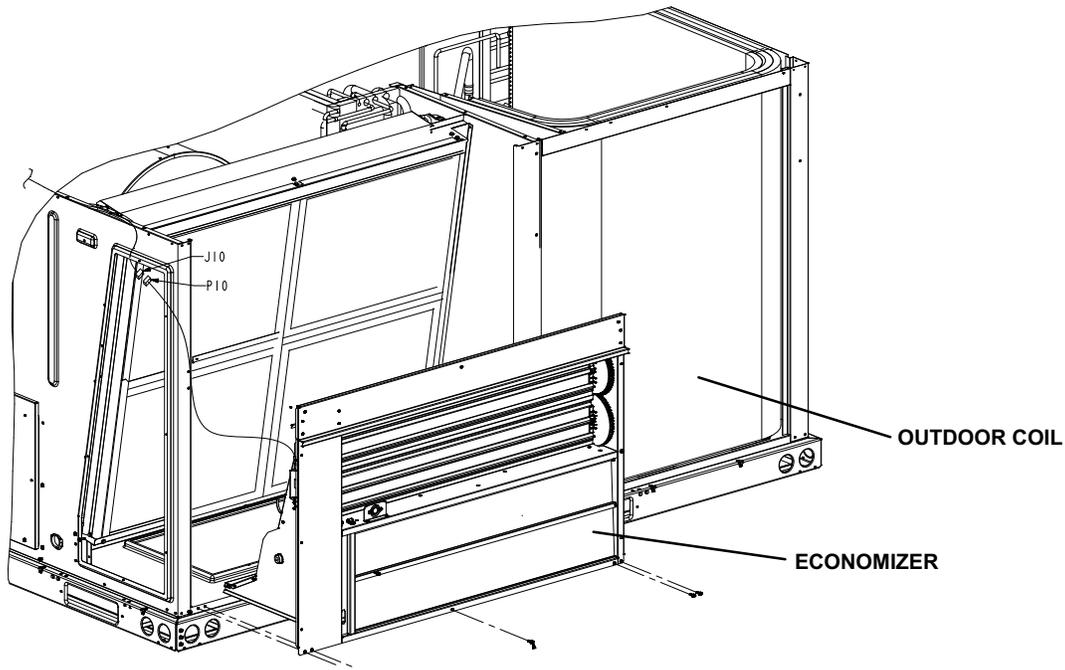

FIGURE 27
Economizers use outdoor air for free cooling when temperature and/or humidity is suitable. See figure 27.
- 4- At economizer/filter compartment, attach economizer plug(P10) to prewired harness jack (J10). See Figure 27.